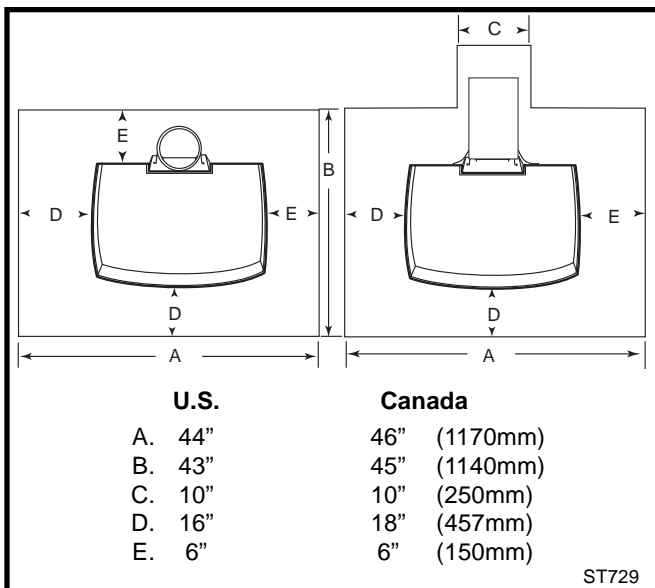

Fig. 11 Required floor protection dimensions.
U.S. Installations: The floor protector is required under the stove and must extend at least 16 inches from the front and left (loading door) side of the stove, and at least 6 inches from the right side and rear. (Fig. 11) It must also extend under the chimney connector and 2 inches to either side. Refer to Figure 11 for minimum noncombustible floor protection dimensions.
In Canada: a noncombustible floor protector is required under the heater also. The floor protector must extend 18 inches (457mm) from the front and left (loading door) side of the stove, and at least 6 inches (150mm) from the right side and rear. (Fig. 11) It must also extend under the chimney connector and 2 inches to either side. Refer to Figure 11 for minimum noncombustible floor protection dimensions.